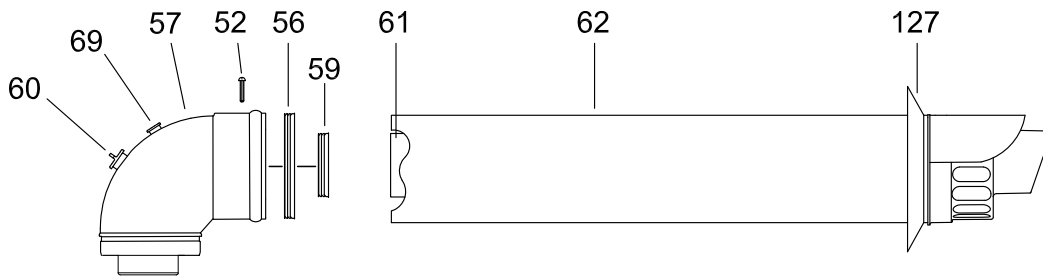

Fig 10
HORIZONTAL FLUE KIT BOX CONTAINING (Fig 10):
Note: Add 30 mm to allow for terminal rubber wall seal (fig.10 item 127).